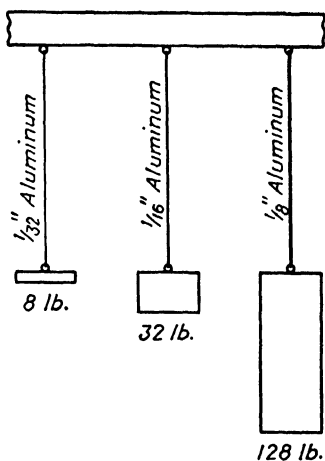

Fig. 208.
**B. Demonstration 2.** Take three wires, all aluminum, of these diameters:  $\frac{1}{32}$  in.,  $\frac{1}{16}$  in.,  $\frac{1}{8}$  in., and suspend them as shown in Fig. 208.
Notice that the greater the diameter of the wire, the greater is its tensile strength. Using the data in Fig. 208, complete the following table *in your own notebook*.